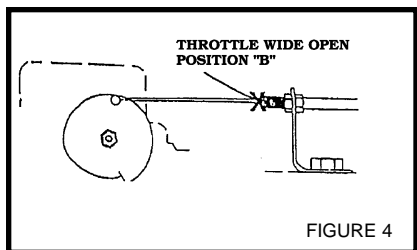

FIGURE 4
- Depress accelerator pedal and make a mark on the throttle cable when the throttle is in the wide open position. **Figure 4**